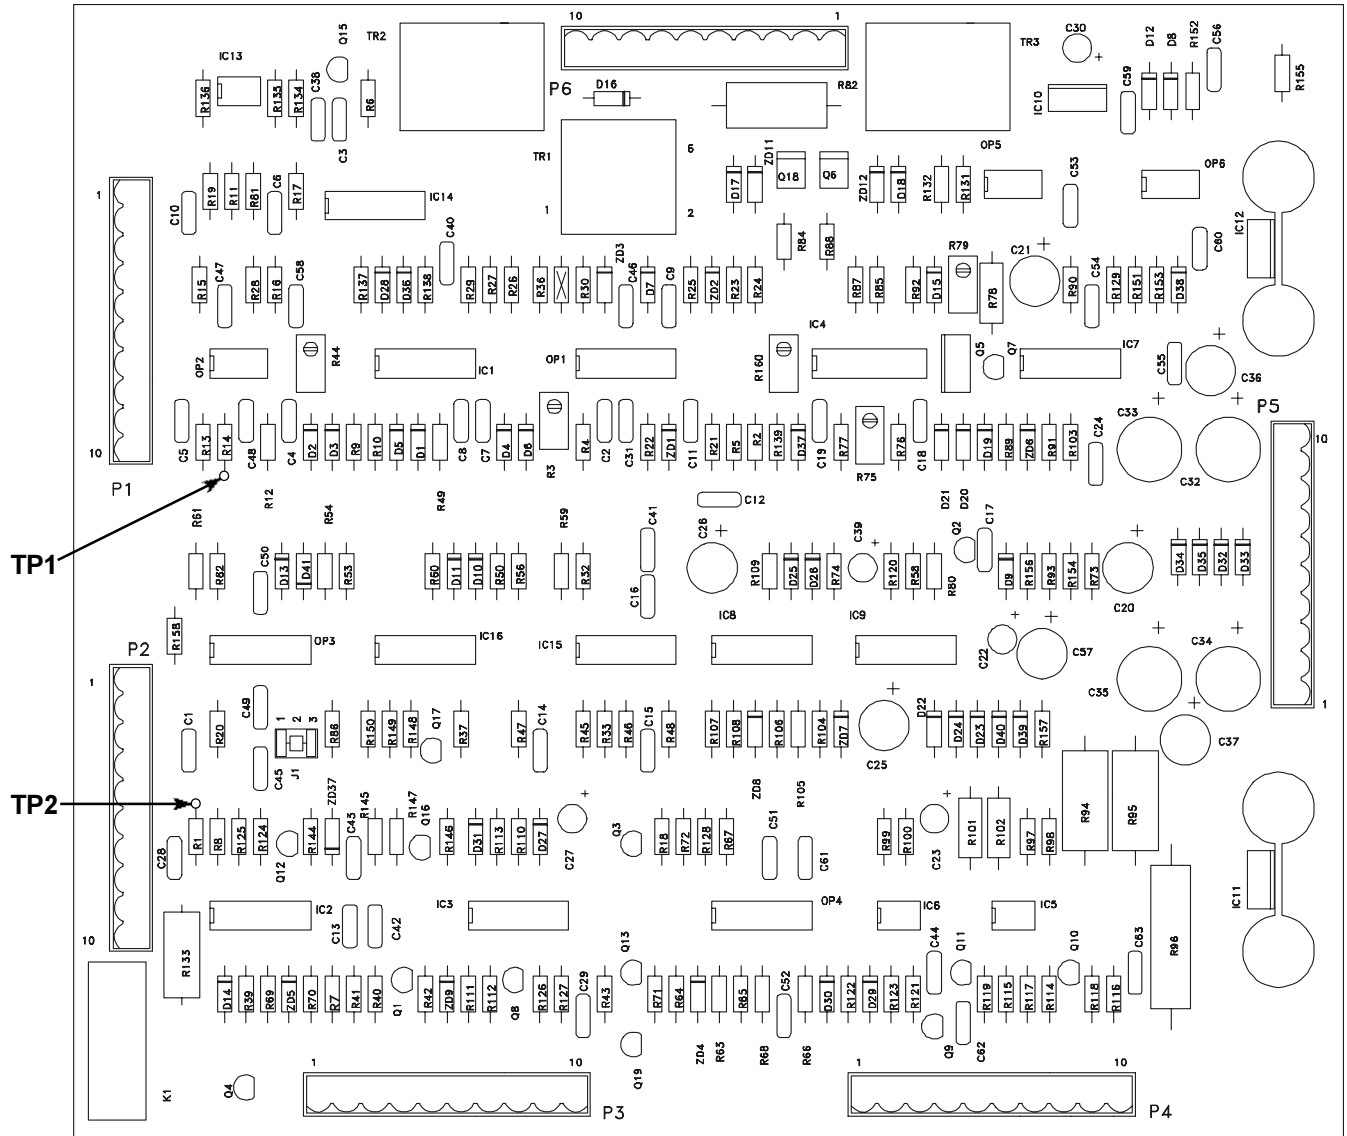

Figure 5-3. Inverter Control Board (ICB) (Top View Layout)
G. Inverter Control Board, ICB, Troubleshooting (See Figure 5-3)